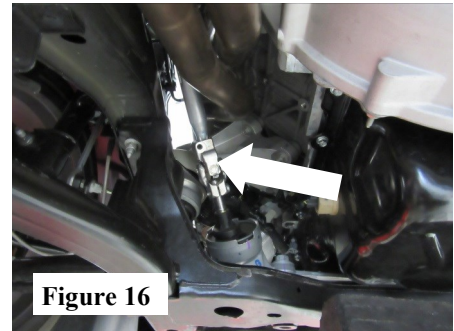

Figure 16
17. Replace steering shaft to universal joint and reinstall fastener. Torque to 25 ft.lbs. (See Fig. 16)